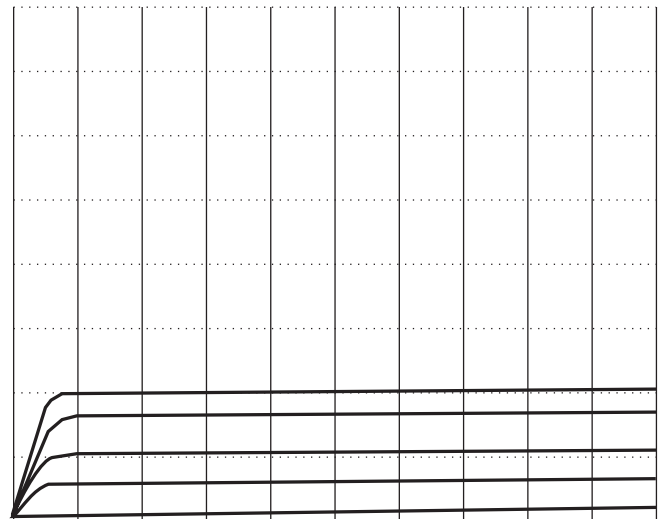

Figure 3
After power on the base current is preset to minimum value. (**Figure 3**). After activating function MAX or MIN the position of the curves can be adjusted within 3 ranges. Thereby an additional offset has to be considered in every range. The offset amounts a half step. Continuous passing through the ranges from the lowest to the highest is possible if the rotary knob ⑧ is turned clockwise. A skip from step 127 to step 128 involves a change of range. The first 5 steps of the new range are equal to the last 5 steps of the last range. When changing the ranges the base current is multiplied by 10. It has to be considered that range 3 (10 mA base current) cannot be reached if the collector current is limited to 2 mA by keys I_{max} ⑩.
As soon as the HM6042 is switched on, a baseline is visible at the CTR screen as long as no DUT is inserted. If a bipolar transistor is connected and the measurement is started by pressing DUT ⑭ a more or less diversified set of characteristics is displayed. **Figure 3** shows how a typical display may look with these basic settings selected. If e.g. a NPN